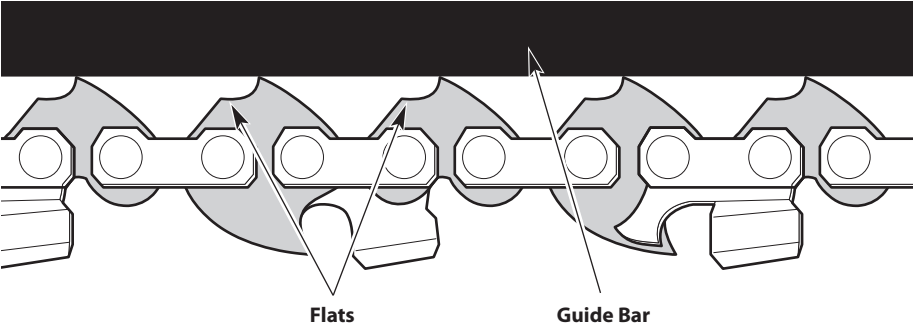
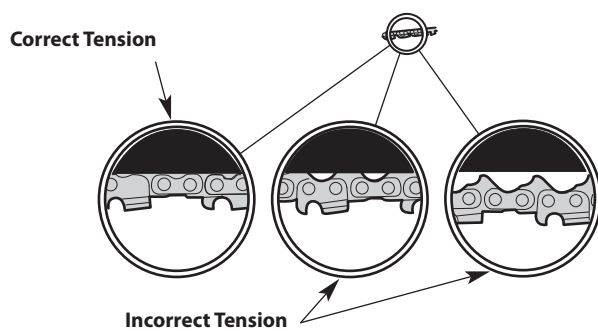

Fig. 14
Fig. 17
Check the chain tension before and during operation. The saw chain will expand as it heats up during operation. Adjust the chain tension whenever the flats on the saw chain hang out of the bar groove (Fig. 14 & Fig. 17).
- Turn the chain-tensioning screw counterclockwise to loosen the saw chain.The saw chain should fit snugly against the underside of the guide bar. There should be no sag (Fig. 17).